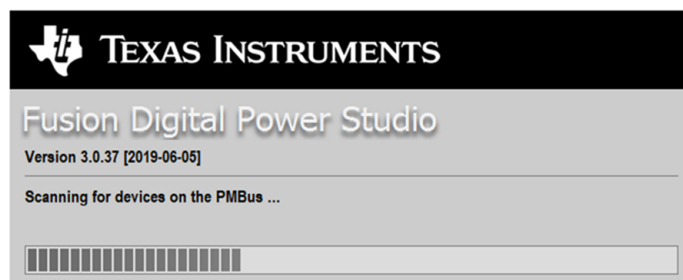

Figure 3. Device Scanning
4. While the scanning process occurs, you see a dialog box like Figure 3: